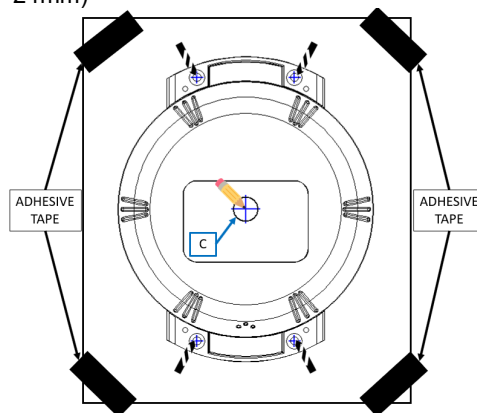

Figure 2
- 1.2. Secure the sheet on the 4 corners with adhesive tape (fig. 2).
- 1.4. Mark piercing the sheet in the point C to indicate the center of the projector that will be the reference for the positioning of the transmitter (fig. 2).